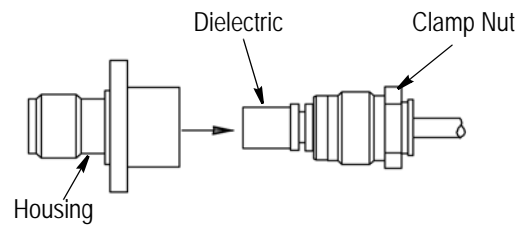

Figure 5
10. Slide the dielectric onto the center contact. Slide the clamp nut over the sleeve, then thread the clamp nut onto the housing. Tighten to a torque between 2.8 and 3.4 Nm [25 and 30 in.-lbs]. Refer to Figure 5.